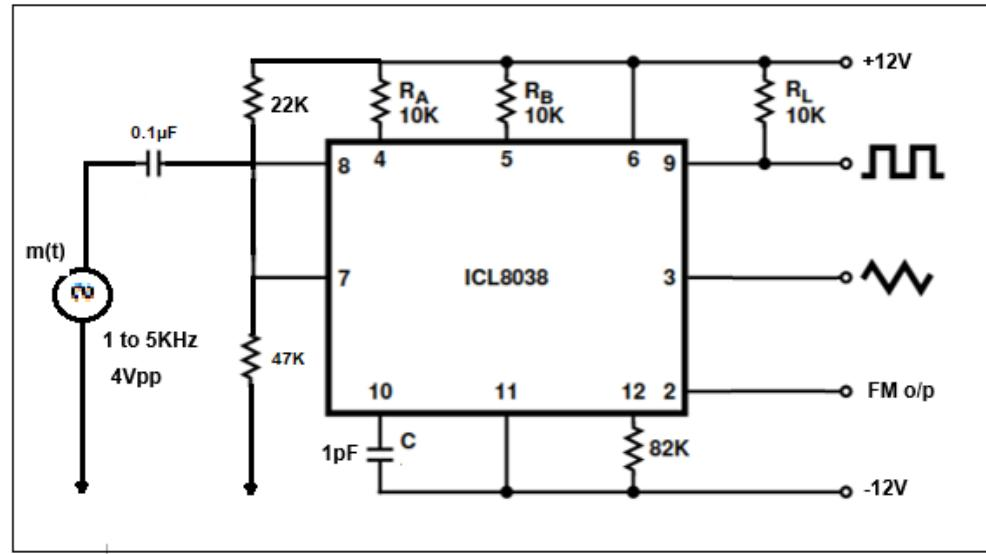

Figure3: Frequency modulation application circuit from ICL8038
1. Rig up the circuit as in the Figure 3.
The circuit diagram and output waveform for flat top sampling is as shown in fig 3 and 4 respectively